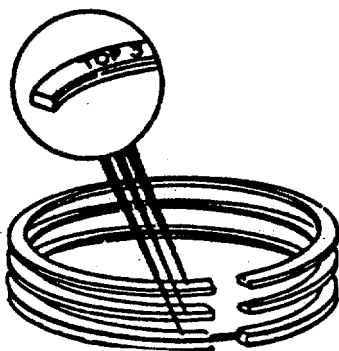

FIGURE 4-49. Installing Piston Rings.
- e. Install the piston rings. The top surface of all the rings are identified by the word "TOP" as shown in FIGURE 4-49.